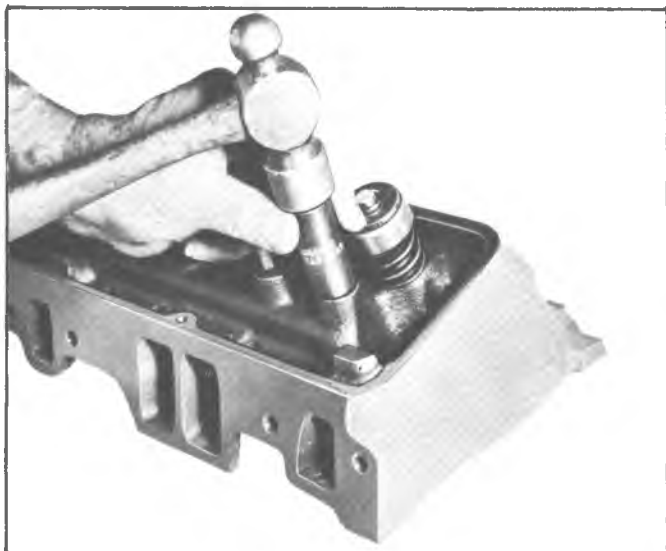

Fig. 21—Installing Rocker Arm Stud (In-Line and "Small V8")
3. Coat press-fit area of stud with hypoid axle lubricant. Install new stud, using Tool J-6880 as a guide. Gauge should bottom on head (fig. 21).